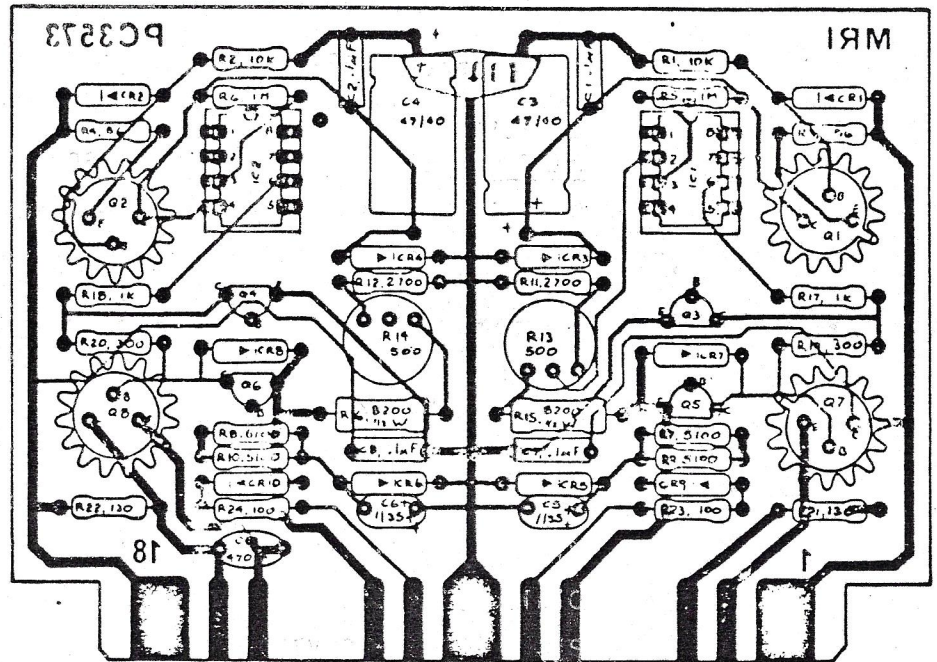

Figure 5-2. Component Layout, Regulator Card.
- 5.02 Remove the top cover to gain access to the interior of the power supply. The regulator and control circuitry is mounted on two plug-in PC boards. See Figures 5-2 and 5-3 for component location.